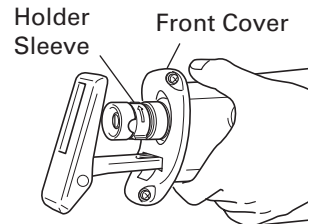

Fig. 2
(1) Turn on and off the switching trigger several times so that the holder sleeve can jump out of the front cover completely. Thereafter, turn off the switch and unplug the power cord. (Fig. 2)
- (1) Turn on and off the switching trigger several times so that the holder sleeve can jump out of the front cover completely. Thereafter, turn off the switch and unplug the power cord. (Fig. 2)
- Do not remove the front cover (refer to Fig. 2).